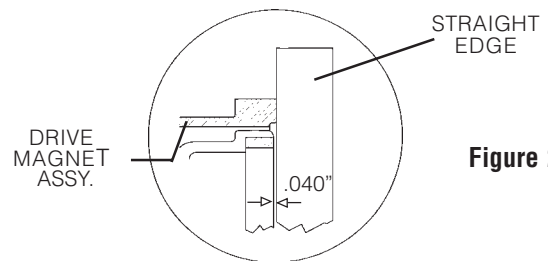

Figure 2
2. Remove screws and washers (items 12A, 12B & 12C) from impeller housing (item 1) and remove wet end assembly from motor adapter (item 11).
3. Install motor adapter onto motor (labels at top) and secure with motor bolts and washers (items 14A, 14B, 14C) from hardware package.
4. Slide the drive magnet (item 10) onto the motor shaft so that the cone point setscrew (item 10B) is aligned with the motor shaft keyway. Install the drive magnet so that it is recessed 1.016 mm (.040" +/- .005") below the surface of the motor adapter (see figure 2). Tighten both setscrews with a 5/32" Allen wrench to 15.8 N-m (140 in-lbs.).
For 71/B14 frame motors - Install the motor adapter (item 11) onto the motor face. Slide the drive magnet (item 10) onto the motor shaft so that the cone point setscrew (item 10B) is aligned with the motor shaft keyway. Install the drive magnet so that it is recessed 1.016mm (.040" +/- .005") below the surface of the motor adapter (see figure 2). Tighten both setscrews with a 5/32" Allen wrench to 15.8 N-m (140 in-lbs.).